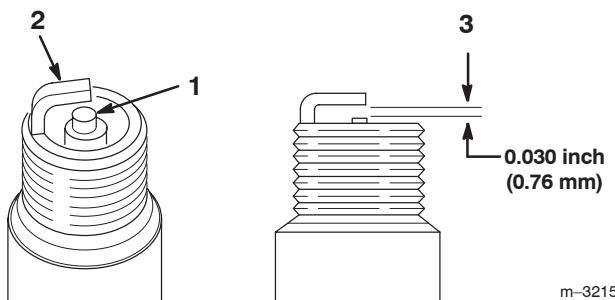

Figure 49
1. Look at the center of the spark plug(s) (Fig. 49). If you see light brown or gray on the insulator, the engine is operating properly. A black coating on the insulator usually means the air cleaner is dirty.
2. Check the gap between the center and side electrodes (Fig. 49). Bend the side electrode (Fig. 49) if the gap is not correct.